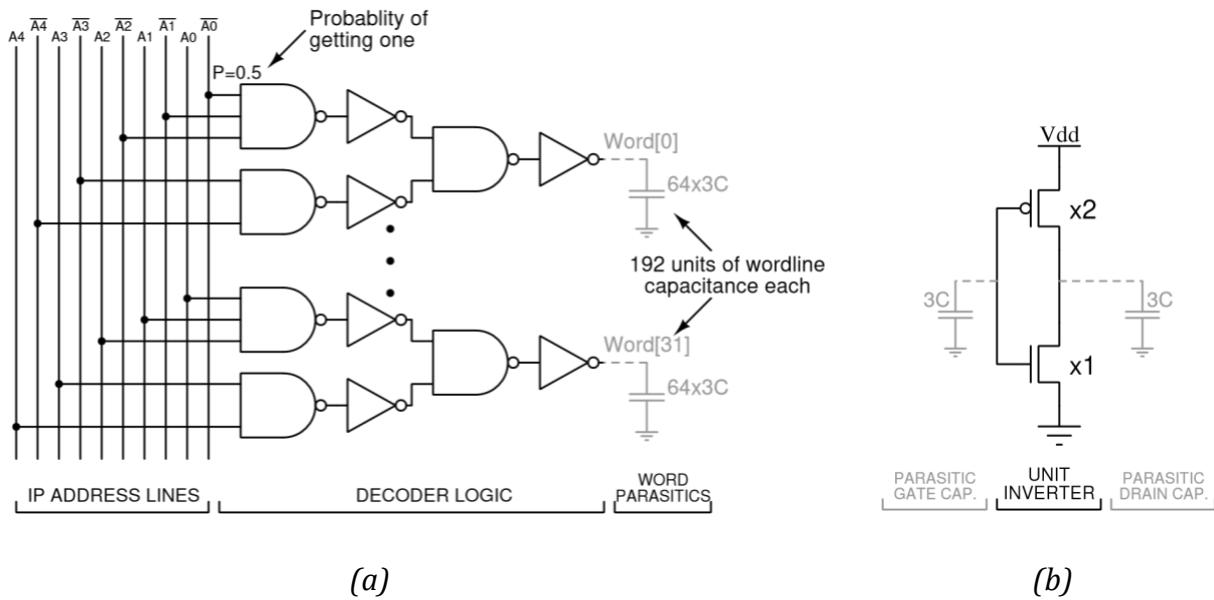

Figure 1. (a) An example of a 4-stage decoder architecture. (b) A unit-size inverter definition.
Consider a row decoder used to select one word within a 32-word register file, where each word is 64 bits wide. An example of such a decoder, for the case when it uses 4 stages of static CMOS logic to drive each word line, is shown in Fig. 1(a) (IP stands for ‘Input’).
- Assume a unit-size inverter is defined as shown in Fig. 1 (b).
- Each input address line can drive up to 20 unit-size inverters1 (as shown in Fig. 1 (b))
- Each register bit adds a load of three unit-size transistors to the word line, as shown in Fig. 1(a) (accounting for two unit-size access transistors plus some wire capacitance)